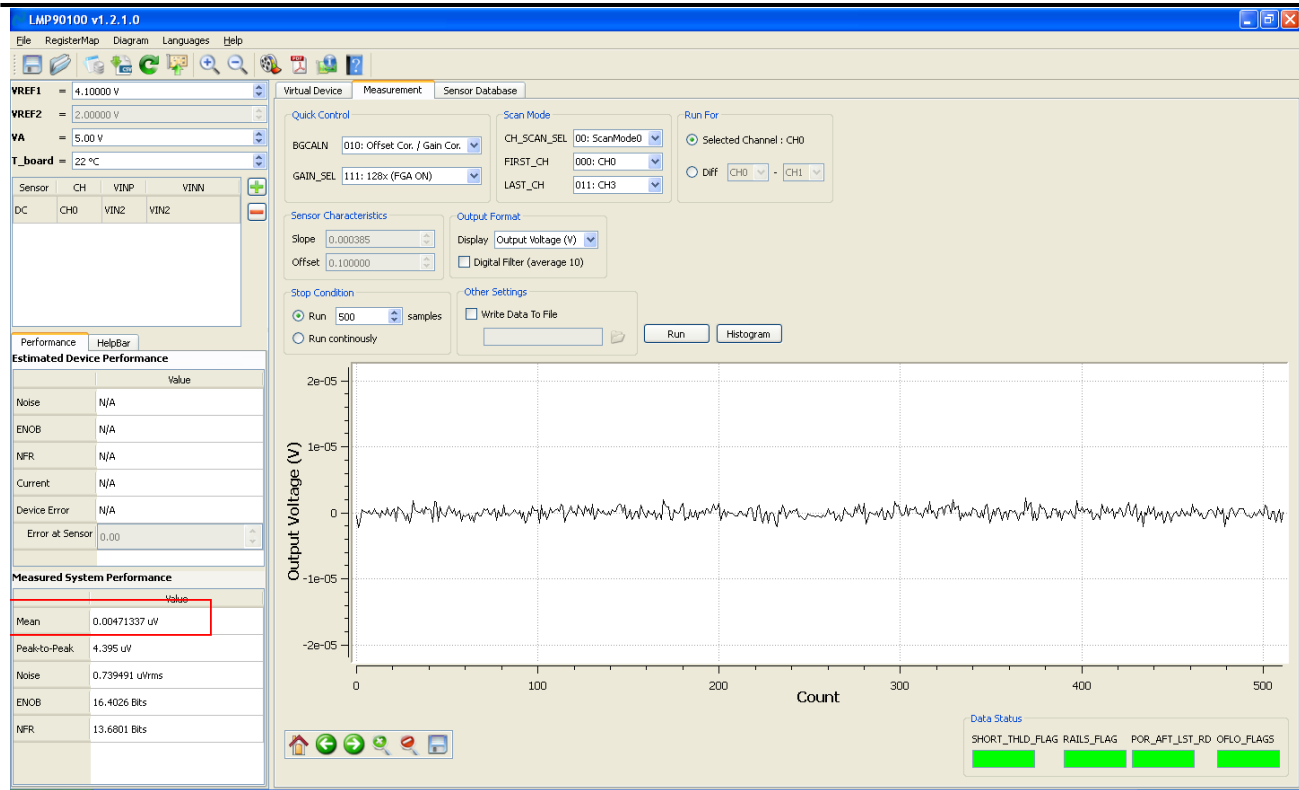

Figure 12 - Results for Shorted Input Test with Calibration
2. Click on the “**Run**” button again to view the output voltage results. A mean output reading closer to 0V should be plotted similar to Figure 12. This decrease in the mean output reading demonstrates the LMP90100 offset calibration feature.